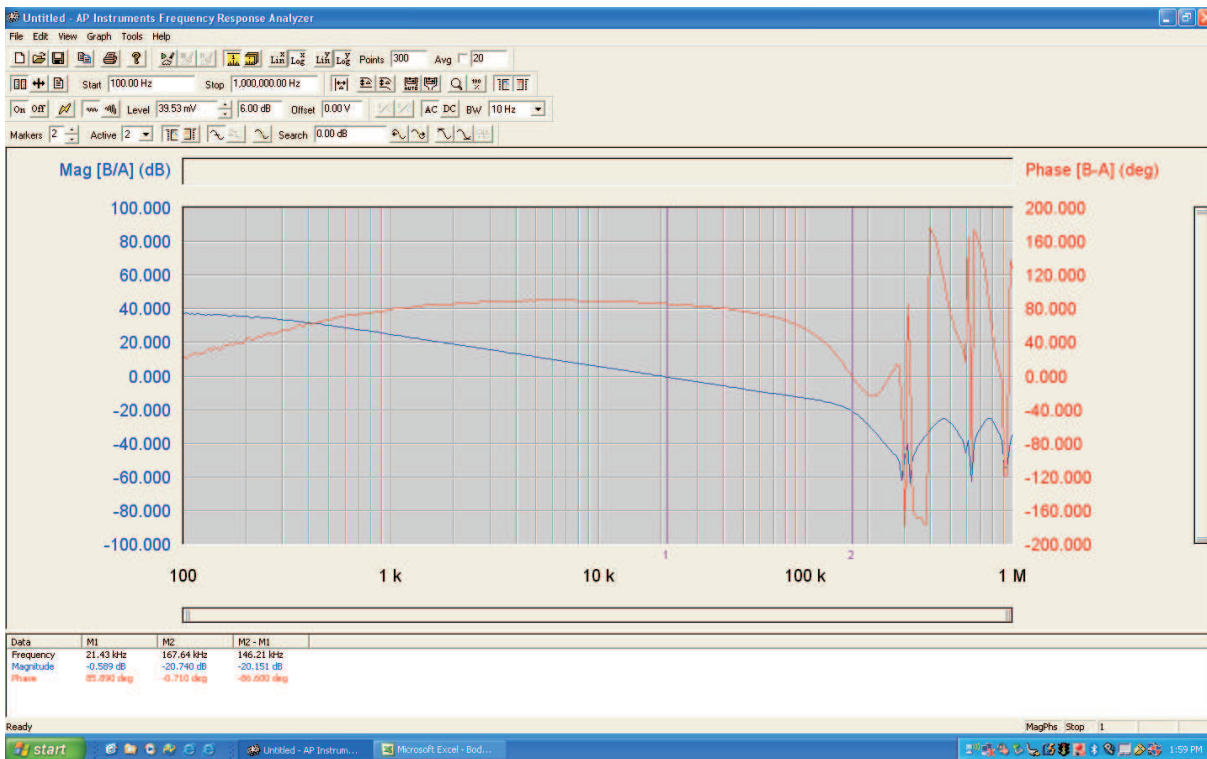

Figure 8. Bode Plot for TPS53219EVM With All-Ceramic Capacitor Application
**Figure 8** is the bode plot for TPS53219EVM with all-ceramic capacitor application. Test condition: 12 Vin, 1.1 V/25 A, crossover frequency: 21.43 kHz, phase margin: 85.50 degrees, gain margin: -21.58 dB.